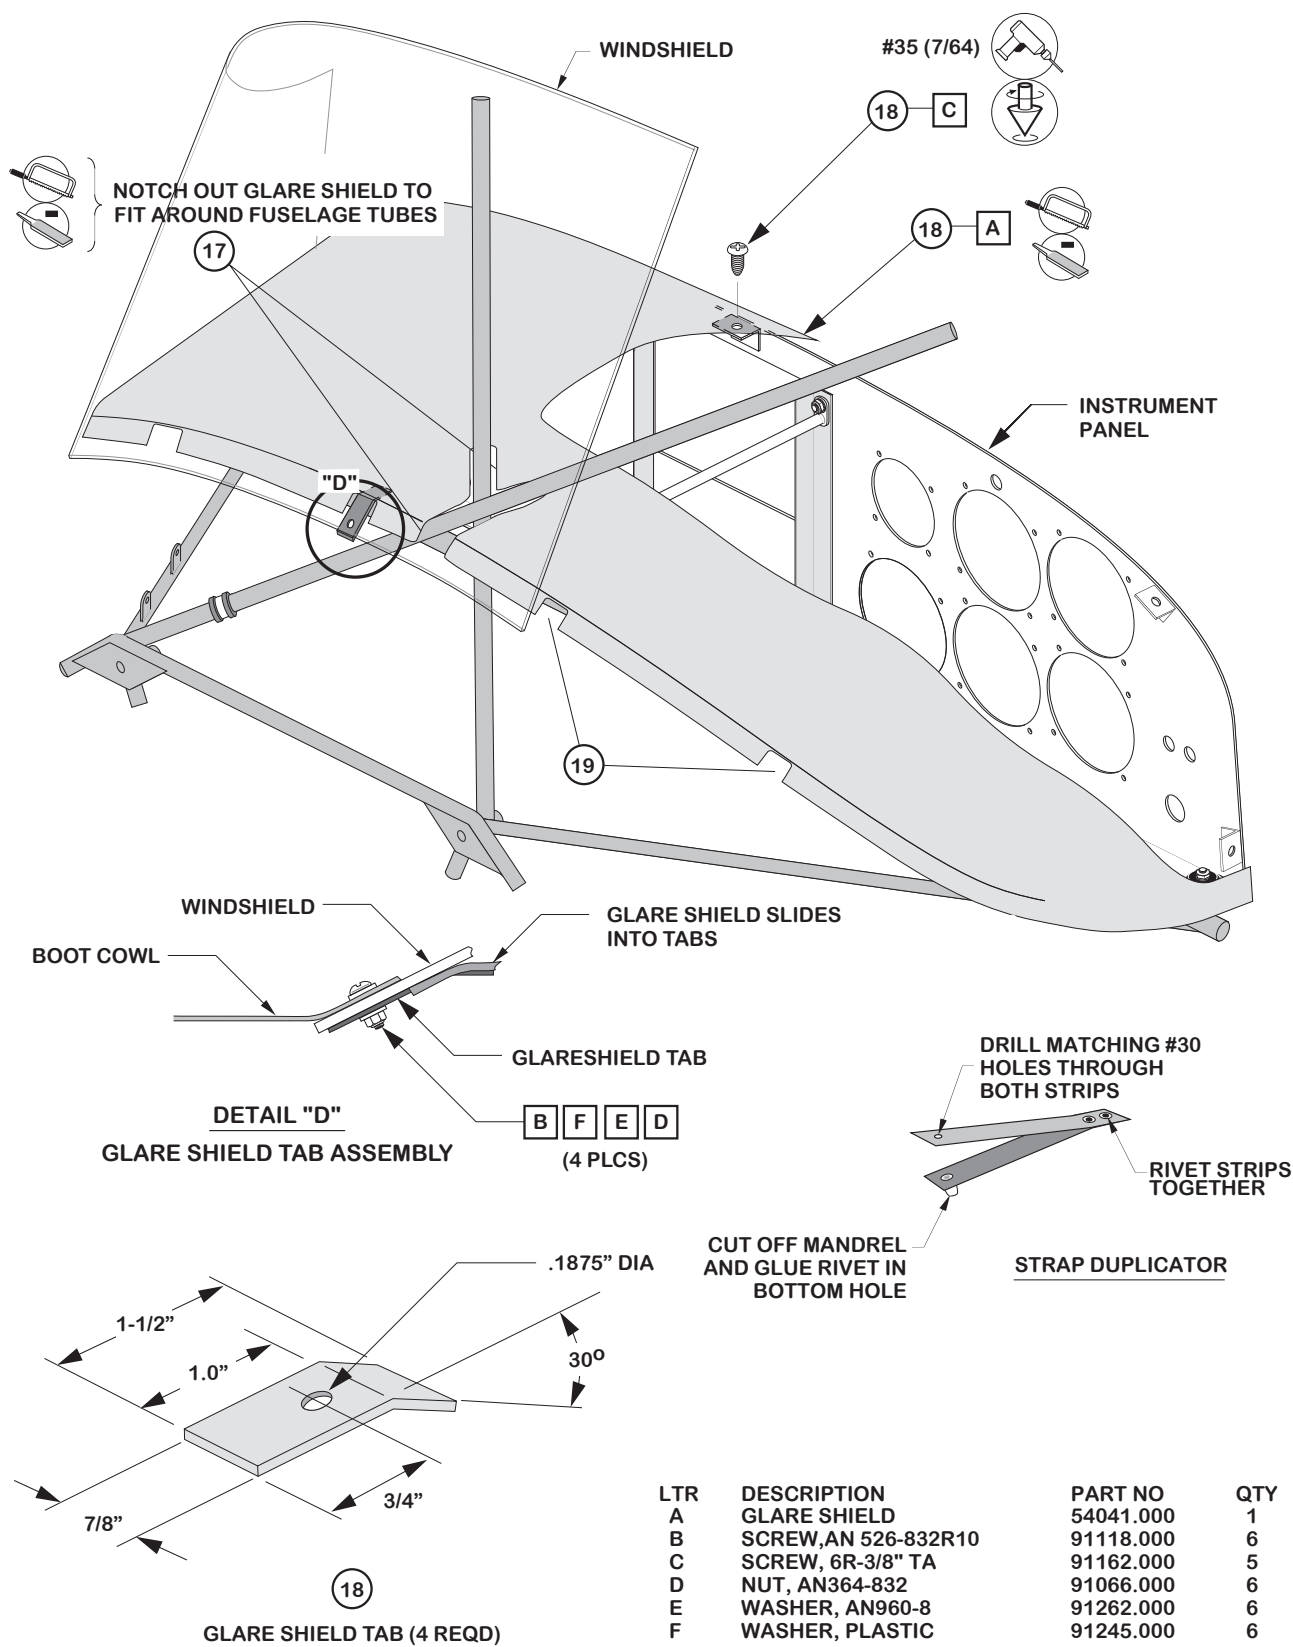

Figure E-4
18. Fabricate four glare shield tabs as illustrated in Figure E-4 from .050 aluminum stock. Install the tabs on the four forward-most holes in the boot cowl where the glare shield will contact the windshield. See DETAIL "D". Bolt the windshield to the boot cowl without a tab where the glare shield does not touch the windshield (hole 2 & 7).